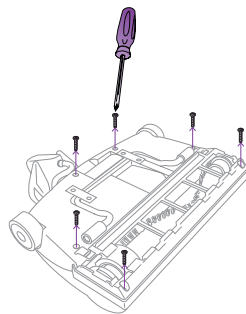

Fig. 19
- 2 Using a Phillips screwdriver, remove the six (6) screws from the bottom plate. (Fig. 19)